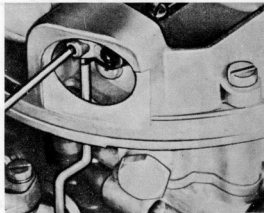

Fig. 3.24. Zenith carburettor - removing choke rod clamping screw (Sec. 9)
- 3 To remove the top section of the carburettor, remove the plastic plug from the side and slacken the screw securing the automatic choke rod (Fig. 3.24). Remove the ten screws securing the top section (one is inside the air filter securing screw recess) and lift off the cover.